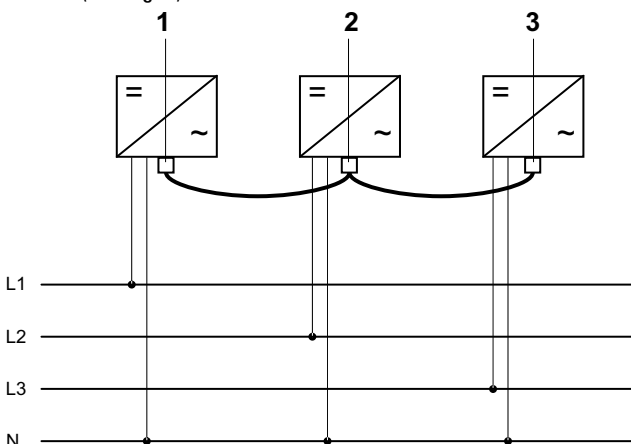

Fig. 1 Installation diagram
- One PLATINUM inverter of each group respectively is connected to one of the three phases (see Fig. 1).